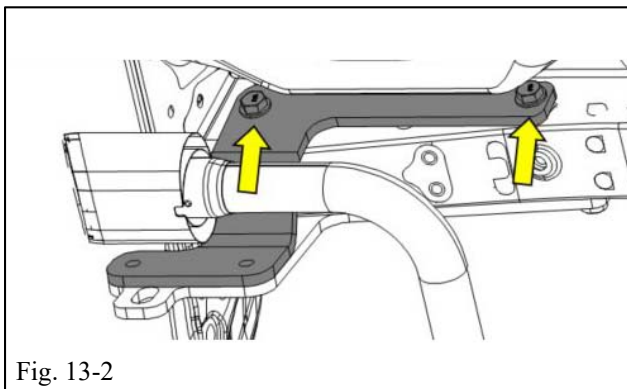

Fig. 13-2
- (c) Fit the (4) M12x30 bolts (Item 4 in the hardware bag table), with (4) washers (Item 2 in the hardware bag table).
- (e) Tighten all bolts on both right-hand side and left-hand side (Fig. 13-2).
! NOTE: Fig. 13-2 shows the right-hand chassis rail outboard.